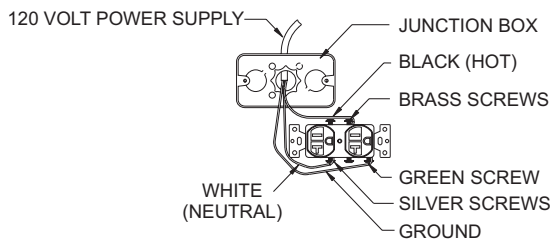

Figure 28
4. Run 14/2 Nm-B with ground or 12/2 Nm-B with ground wire through the electrical access panel into the Junction box. Attach the black wire to the receptacle, and the white wires to the receptacle as shown in **Figure 28**. Secure the incoming ground wire and green receptacle ground wires under the green ground screw provided in the junction box.